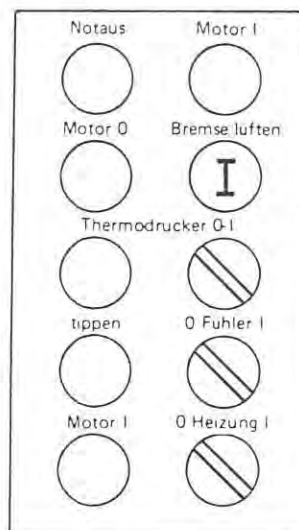

Fig. 239
1. Vent the brake by pressing the „Vent brake“ button (Figure 239).